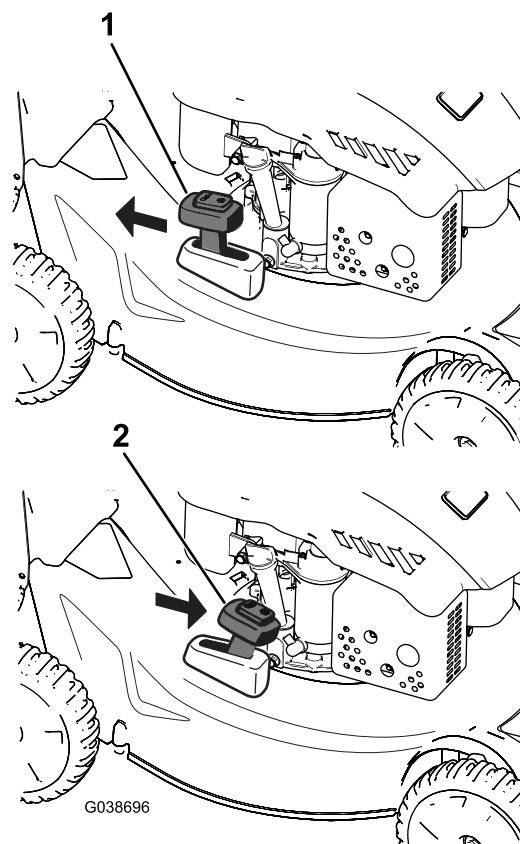

Figure 20
To recycle the clippings, move the bag-on-demand lever to the RECYCLING position (Figure 20).
2. Install the grass bag; refer to Installing the Grass Bag \(page 13\) and move the bag-on-demand lever to the BAGGING position as shown in Figure 20.
Note: If the grass bag is on the machine, remove it before rear-discharging the clippings; refer to Removing the Grass Bag \(page 13\). The bag-on-demand lever should be in the BAGGING position as shown in Figure 20.